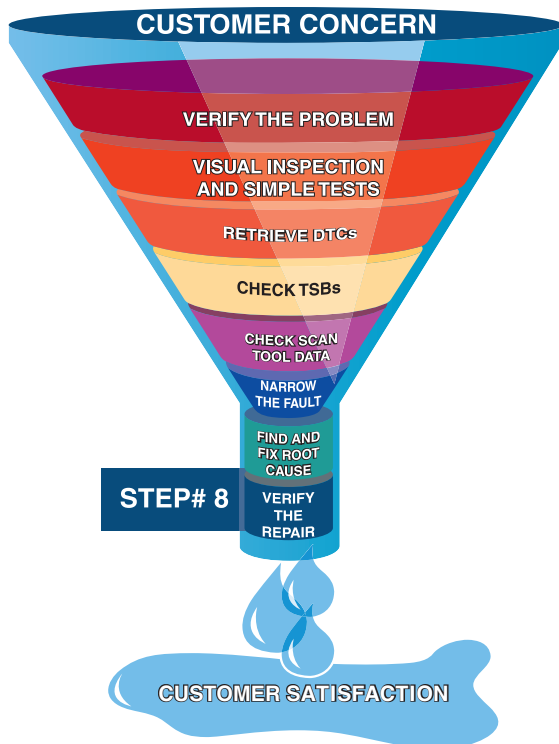

FIGURE 1-11 Step 8 is very important. Be sure that the customer's concern has been corrected.
STEP 8 VERIFY THE REPAIR AND CLEAR ANY STORED DTCs ● SEE FIGURE 1-11.